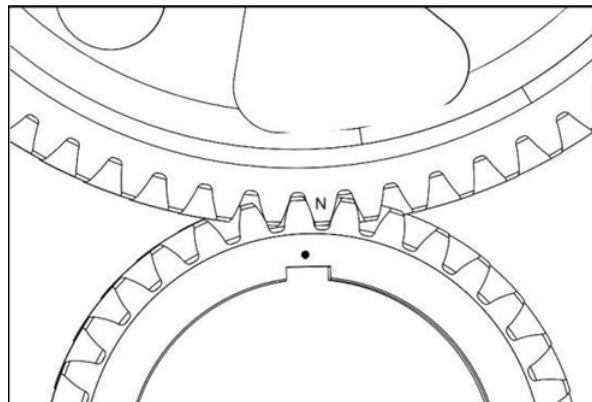

Figure 148.
- The “N” mark on the camshaft gear must be facing the “0” on the crankshaft timing gear (Figure 148).
3. Apply a film of Loctite 242 to the fastening bolts (Figure 148, item 3) and tighten the bolts.
4. Install the trigger wheel (Figure 148, item 2).